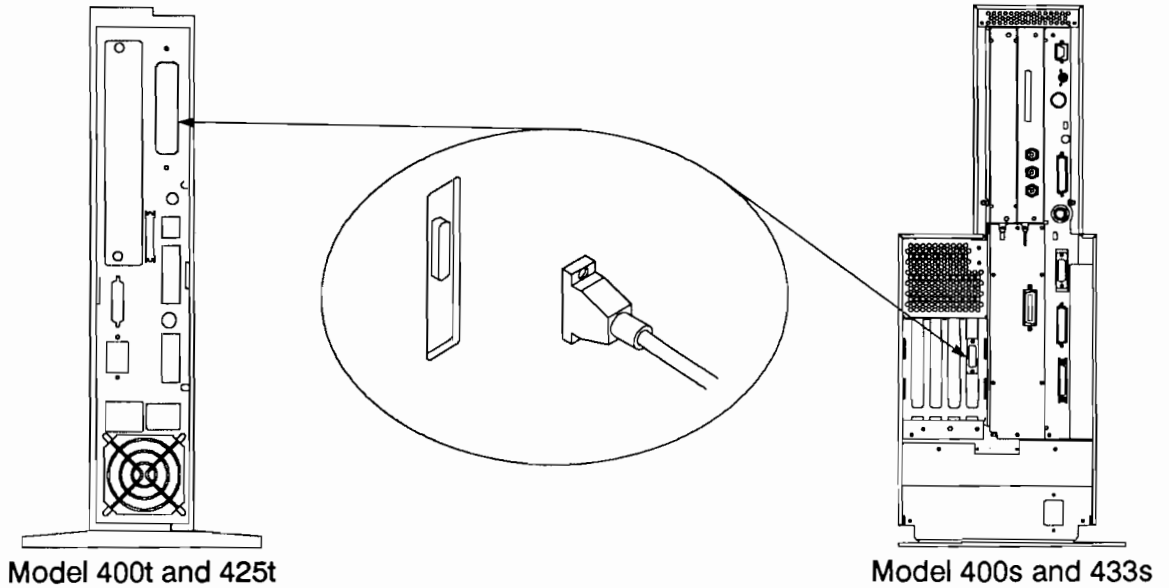

Figure 8-6. Connecting the Network Cable to the System
2. Connect the network cable to the system unit as shown in Figure 8-6. Tighten the screws with a 3-mm (1/8-inch), flat-blade screwdriver.